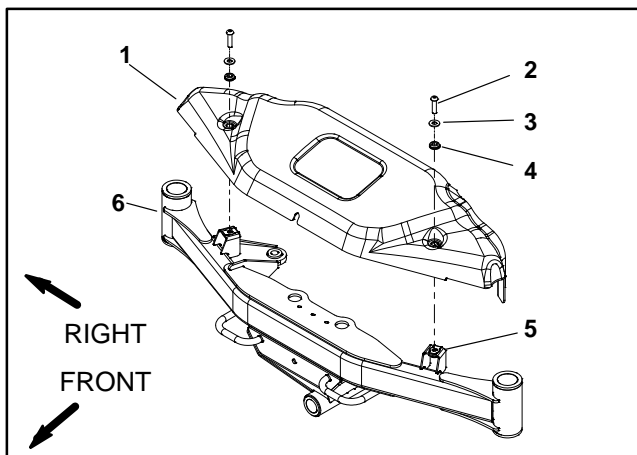

Figure 143
2. If front steering cylinder is to be removed from machine, remove front cover from front axle to allow access to front steering cylinder (Fig. 143).